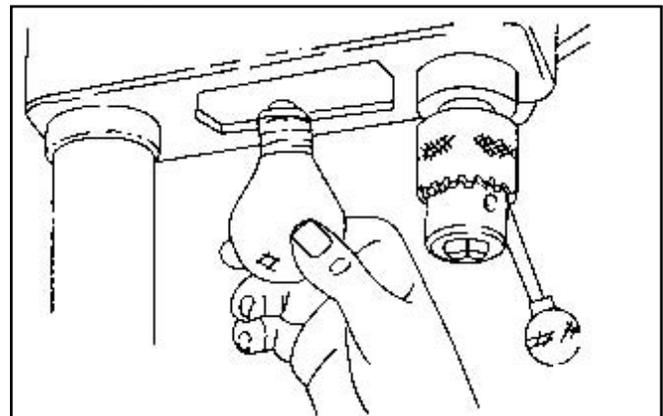

FIGURE 20
1. Install a light bulb (no larger than 60 watt) into the socket inside the head. See figure 20.